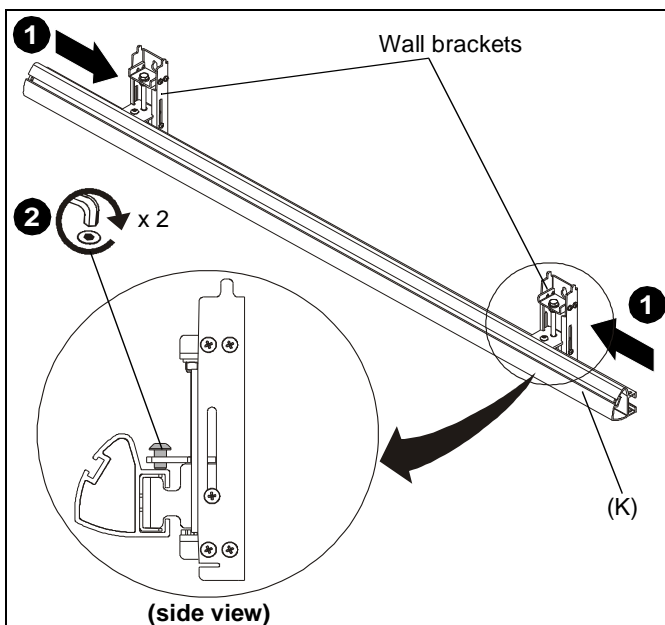

Figure 1
1. Slide wall brackets along wall assembly (K). (See Figure 1)
2. Tighten button head cap screw on each wall bracket to secure wall brackets to wall assembly. (See Figure 1)